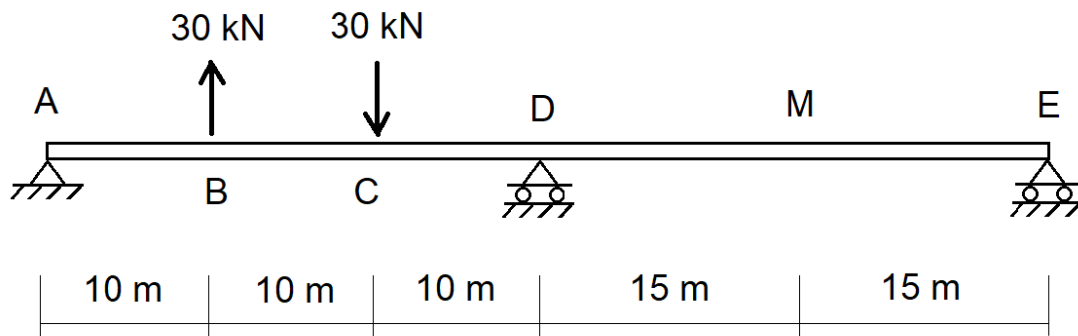

Figure Q3
3. The two-span beam ABCDME is shown in Figure Q3. It is pinned at A and supported through rollers at D, and E. Point loads of 30 kN are applied at B (upwards) and C (downwards). The flexural rigidity of all the members is  $EI=10000 \text{ kNm}^2$